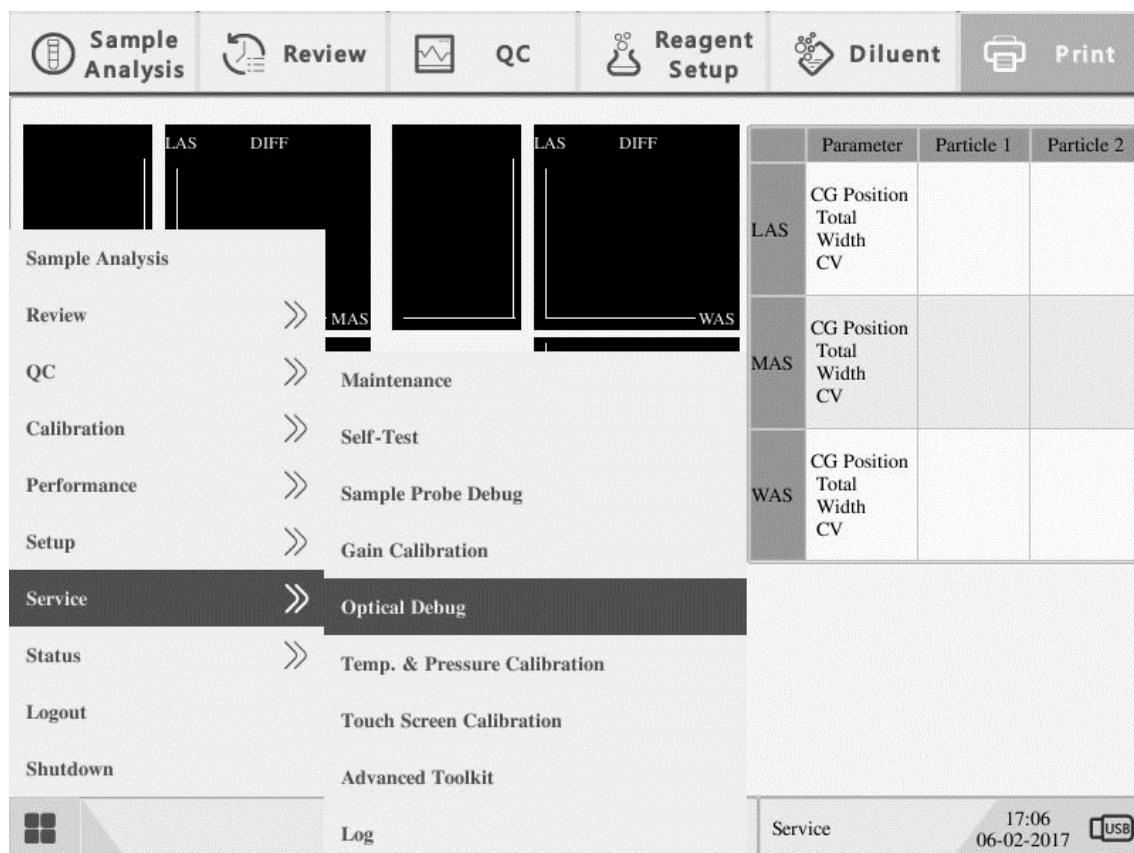

Figure 6-13 Optical debug screen of the standard particle
2. Select the Service menu and enter the “Optical Debug” screen. Perform counting with the prepared standard particle solution. After the counting is completed, the result will be automatically displayed in the screen, as shown in Figure 6-13.